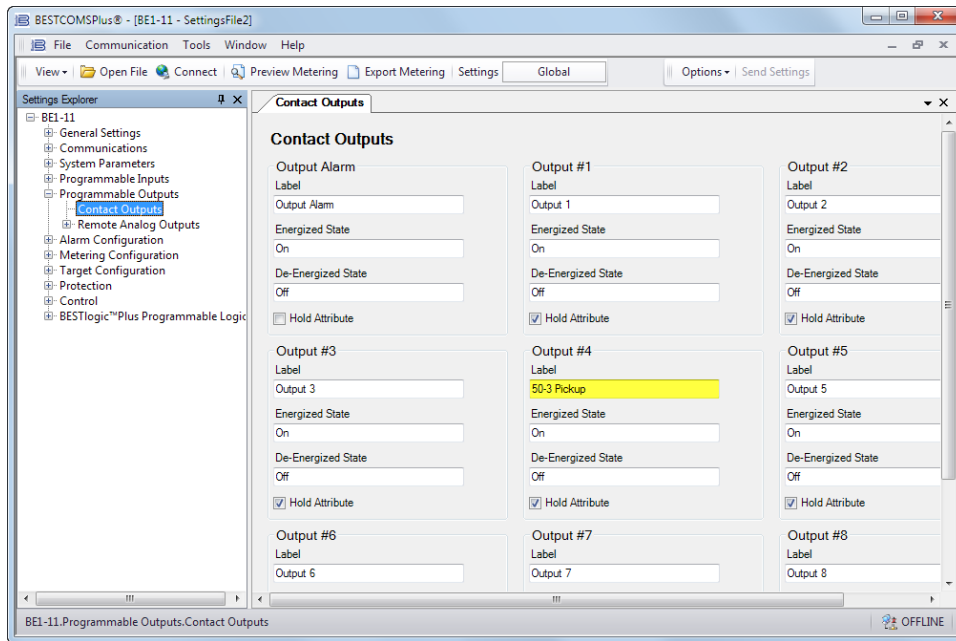

Figure 2-18. Contact Outputs Screen
Step 13: In the Settings Explorer, expand Programmable Outputs, Contact Outputs, and name Output #4 (50-3 Pickup) as shown in Figure 2-18.